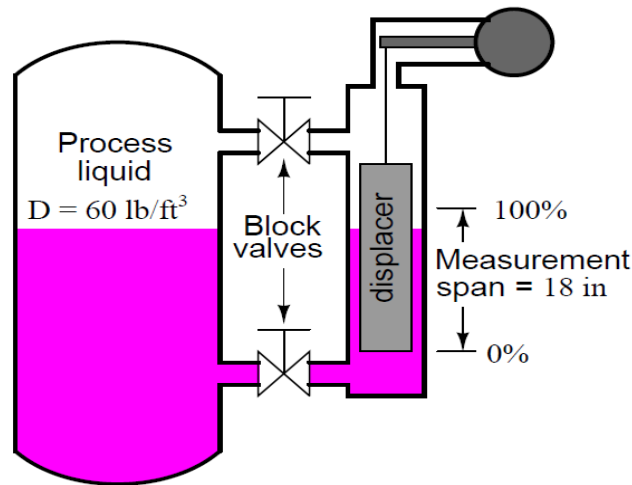

Fig. 2 A displacer level instrument used to measure the level of process liquid in a process vessel.
- (c) Determine a basic 5-point (0%, 25%, 50%, 75% and 100%) calibration table for the displacer level transmitter shown in Fig. 2. The cylindrical displacer weighs 8 pounds (dry) and has a